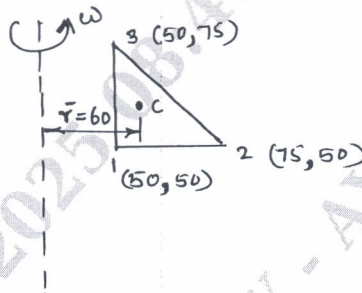

Fig.Q.9(b)
b. For the element of an axisymmetric body rotating with a constant angular velocity $\omega = 1000 \text{ rev/min}$ as shown in Fig.Q.9(b). Determine the body force vector, include the weight of the material, where the specific density is 7850 kg/m^3 . (08 Marks)